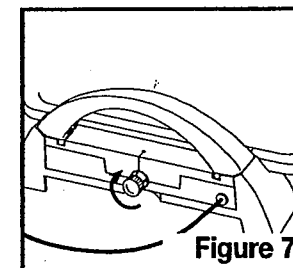

Figure 7
7. Turn Heat Selector to desired setting (1- lowest; 5 - highest). See Figure 7. When the Heat Selector is turned on (settings 1-5), an "ON" light will turn on. Allow unit to pre-heat for approximately 10 minutes.